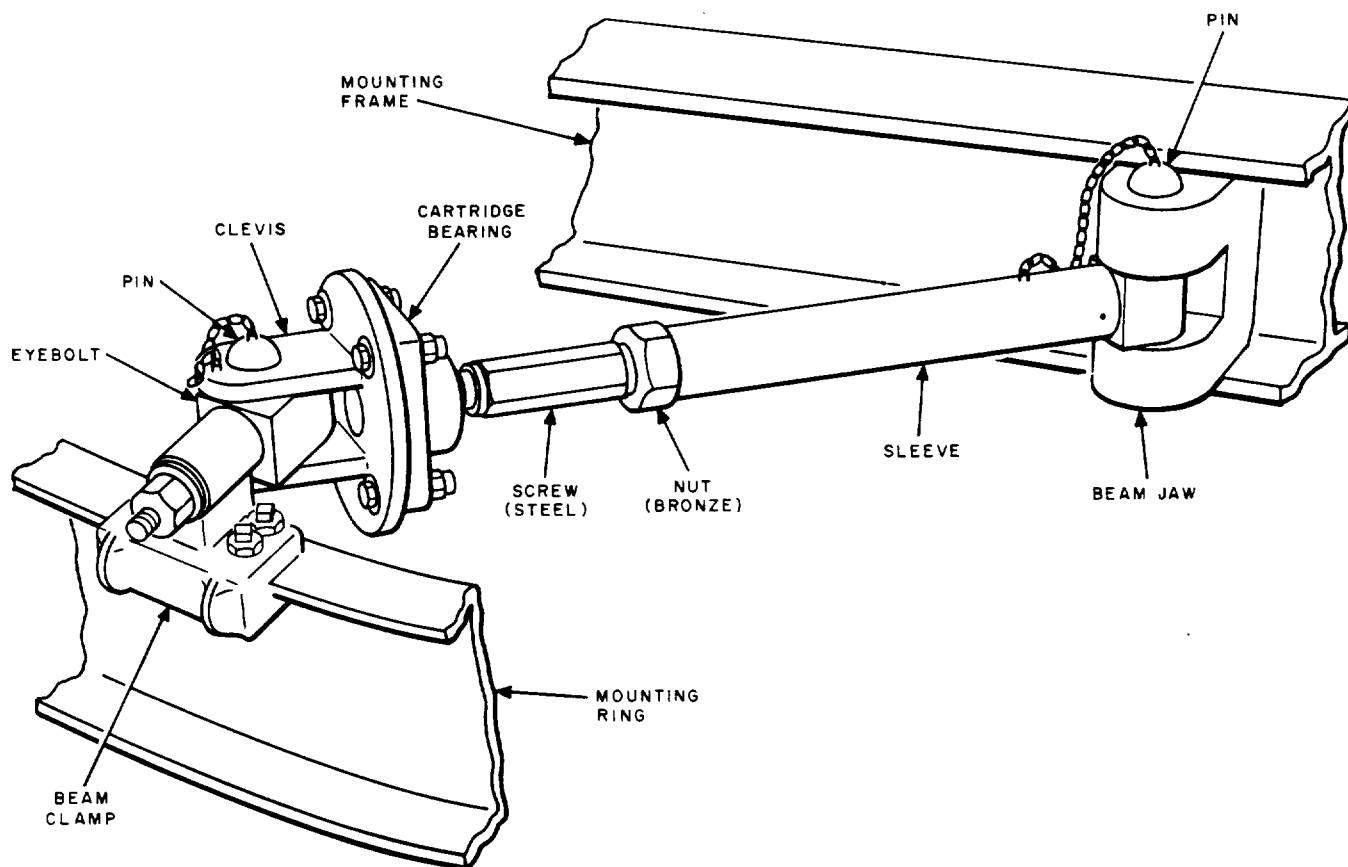

Fig. 7—KS-15676 L12 Azimuth Adjusting Tool
- (1) ⚡Either the L12 or the L17 azimuth adjusting tool (Fig. 7 and 8) may be used to make the fine adjustment of the antenna in azimuth during electrical orientation. The adjusting tools are mounted and operated in the same manner except that the L12 tool is operated with an open-end wrench instead of a ratchet assembly, which is a part of the L17 tool. The tools are intended for use only during orientation and are not to be left in position on the antenna.⚡
- (2) On the antenna deck, select the L11 mounting clamp which is the most convenient for use with the azimuth adjusting tool. In general, this will be the clamp nearest the center of the tower. Slightly loosen the eyebolt stopnut and remove the 3/4-inch bolt from the beam jaw. Lay the bolt, with nut, carefully aside. Unlock and turn the four setscrews in the beam clamp until the clamp can be moved sideways on the mounting base flange. Move the clamp on the flange, withdrawing the eyebolt head from the beam clamp. Insert the end of the azimuth adjusting tool in the beam jaw, and fasten it by dropping the captive pin through the bolt hole in the beam jaw. ⚡Extend the screw(s) of the azimuth adjustment tool enough to expose